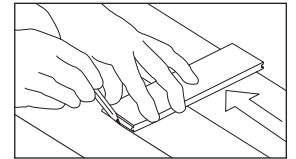

Figure 13
- If the wall is not straight, scribe the first board (Figure 13) as necessary to maintain alignment with the chalk line.
- Align the first row with the wall using wedges to maintain a 1/2" (13 mm) expansion in place and to stabilize the product. If the wall is not straight, scribe the first board (Figure 13) as necessary to maintain alignment with the chalk line.